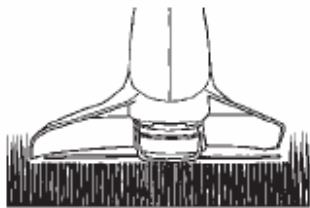

Fig. 15
1. **TRIMMING / MOWING** (Fig. 15). Swing trimmer with a sickle-like motion from side to side. Do not tilt the string head during the procedure. Test area to be trimmed for proper cutting height. Keep string head at same level for even depth of cut.